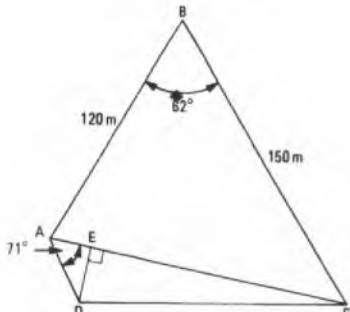

Fig. 2
**Q5** Fig. 2 shows ABC, the original site of a factory. An extension, ADC, is to be considered. The total area ABCD will then be 10 000 m2. If AB = 120 m, BC = 150 m and angle ABC = 62°, calculate the